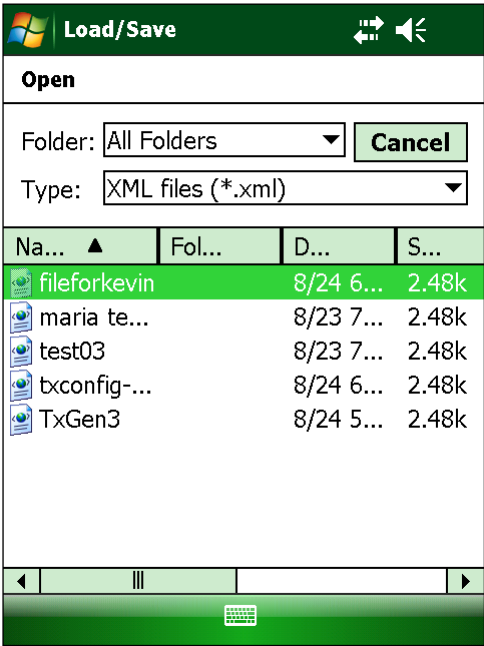

Figure 22: Load/Save Open Screen
- 2. In the Load/Save Open screen, tap on the desired file name from the list to load it (Figure 22).